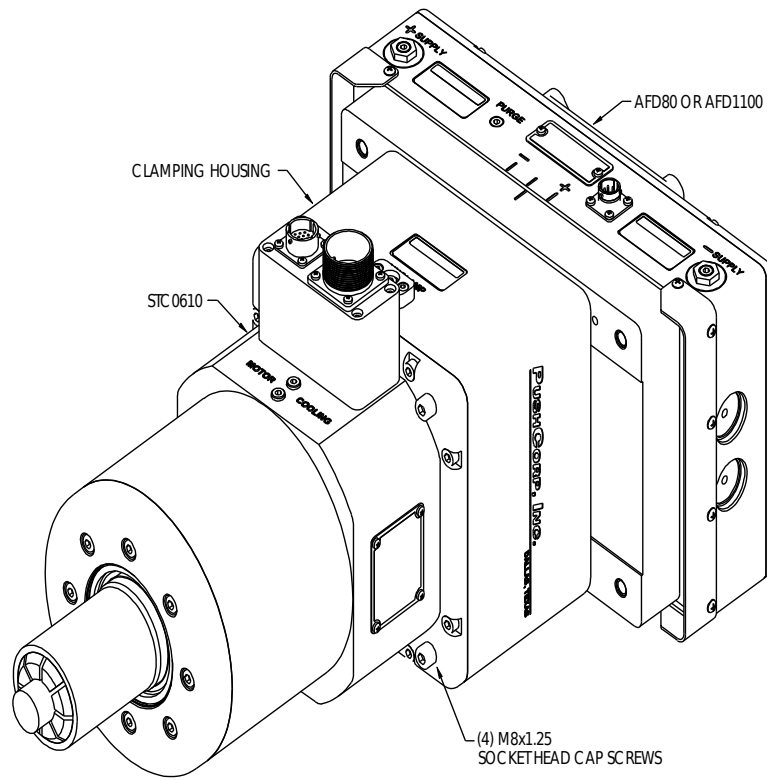

Figure 3. 0610 Perpendicular-Axis Configuration
To attach the 0610 to an AFD in a Perpendicular-Axis configuration, position the Clamping Housing/Mounting Plate over the Carriage as shown in Figure 3. Then secure the unit using four (4), M8x1.25 Socket Head Cap Screws. Tighten the fasteners to the torque specified in Section 4.0.